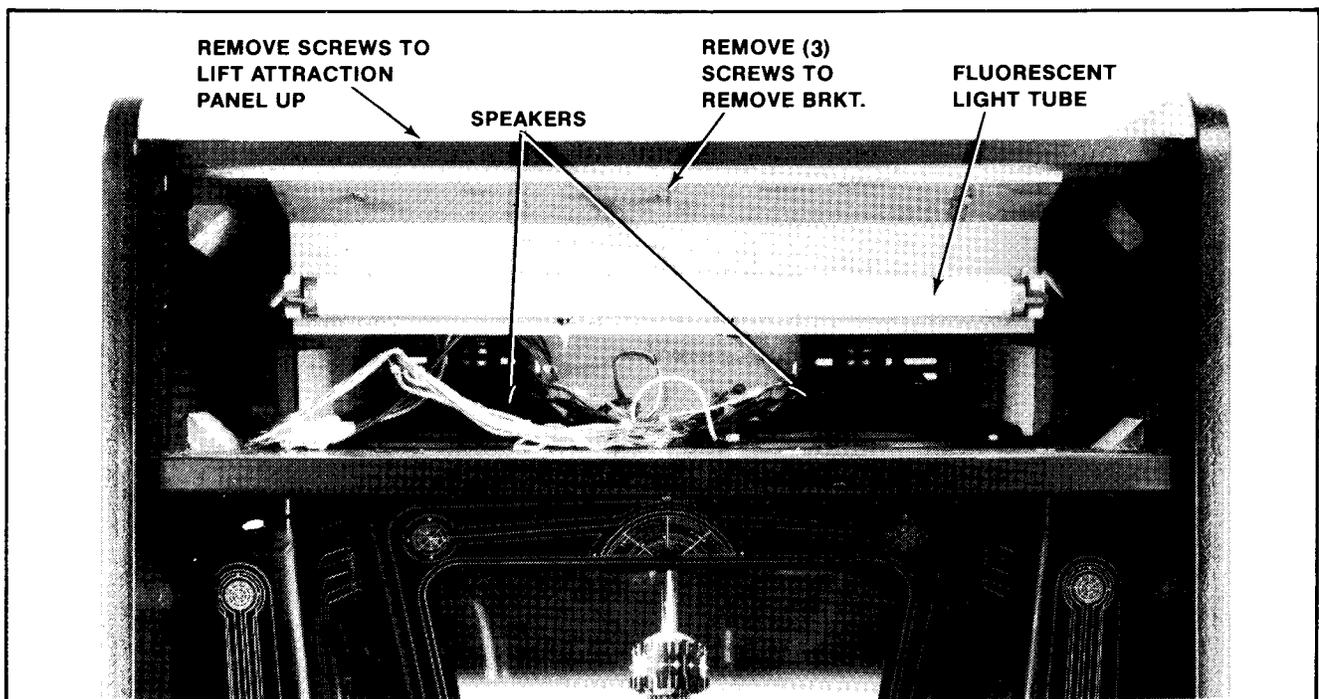

Figure 4-15 Opening Attraction Panel — Upright
Remove the screws which secure the top bracket in place. (They are on its top side.) See Figure 4-15.
Remove the top bracket and slide up the attraction panel. This exposes the attraction panel fluorescent light tube and its mounting bracket assembly. See Figure 4-15.
- Replacement of the fluorescent tube mounting bracket assembly. See Figure 4-15.
- Replacing the speaker. See Figure 4-15.